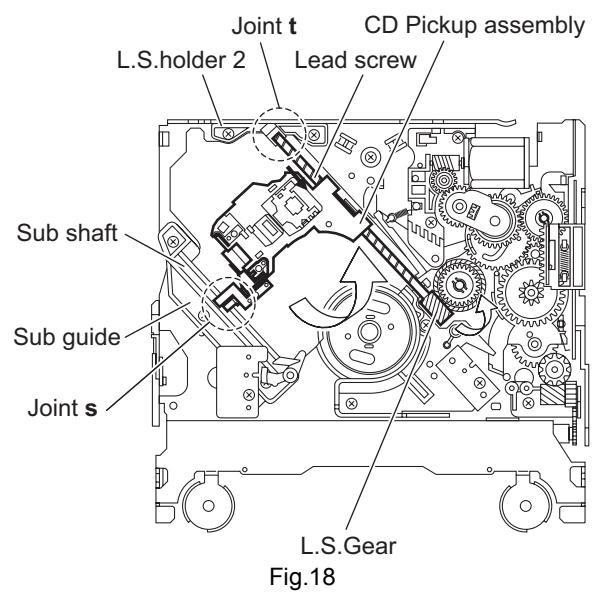

Fig.18
- (3) Remove the CD pickup assembly upward from the side of L.S.gear and release sub shaft from joint **s**. (See Fig.18)
- (4) Move the lead screw of the CD pickup assembly in the direction of the arrow to release at joint **t**. (See Fig.18)
- When reattaching the CD pickup assembly, reattach the sub shaft at section **s** of the CD pickup assembly to the sub guide first, and attach the lead screw shaft to the joint **t** on the L.S.holder2. (See Fig.18)